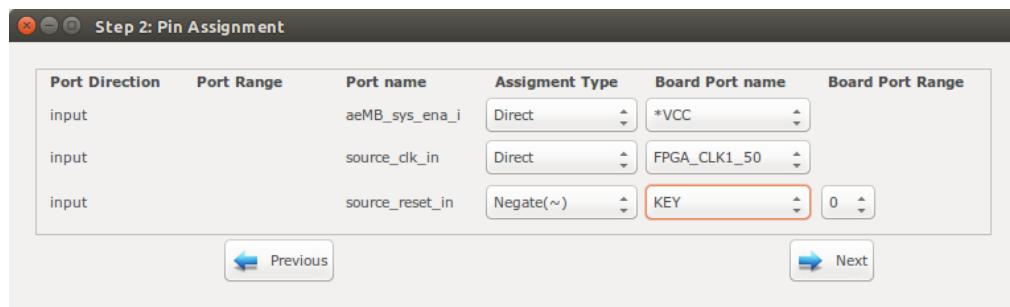

Figure 6.13: DE10-Nano FPGA board pin assignment.
- Follow instructions in Compile the generated RTL code using Quartus II software to compile and run the desired SoC on an Altera FPGA board. The DE10-Nano FPGA board pin assignment and a snapshot of a sample result on UART terminal is shown in Figures 6.13 and 6.14, respectively. You can test the GCD IP core by entering different values.